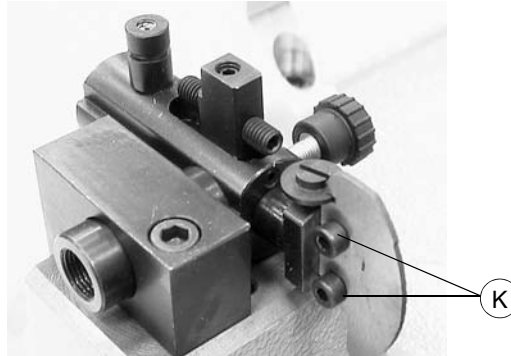

Fig. 19
To replace the tracer point (N), proceed as follows (fig.19):